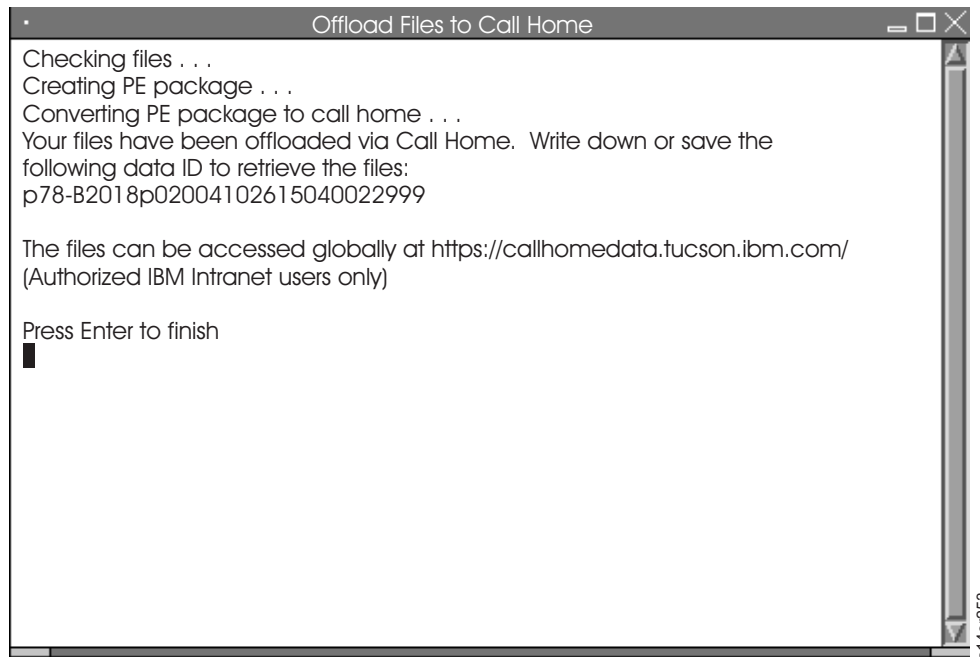

Figure 3-63. Offload Files to Call Home
1. From the main menu, select **System Console Actions > Offload User Files to Call Home**. If you are using a dial-in session, issue the command **offloadpkg**. File offload begins. The window depicted in Figure 3-63 on page 3-47 appears.
2. See Figure 3-63. A data ID is assigned to the user's files. This data ID must be entered to retrieve the files on the RMSS Call Home Database. Make note of this ID for future reference. If the ID is lost, the user's files can still be found by locating call homes from the System Console's Primary System on the Call Home Database. The Primary System is set in Call Home Setup (see "Configuring Call Home Settings Electronic Customer Care" on page 2-62). To assist in recording the ID, note that the ID always takes the form described in the following example.